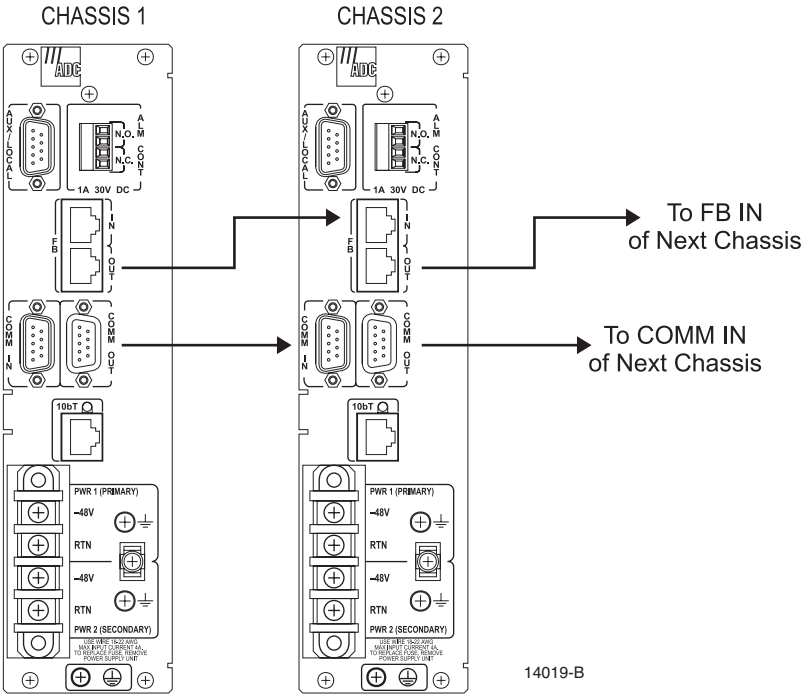

Figure 20. Daisy-Chaining Communication Ports
To daisy-chain the COMM/FB ports, connect the ports as shown in Figure 20. Use type 4 cable (straight-through) for the COMM port connections. Use RJ-45 shielded straight-through cable for the FB port connections.
Step 1. Connect the DSXpert chassis to a terminal or PC. Connect the COMM IN port on the rear of the DSXpert chassis to a terminal or PC as shown in COMM Port section, Figure 20. Refer to Tables 7 and 8 for proper cable and pin connections.